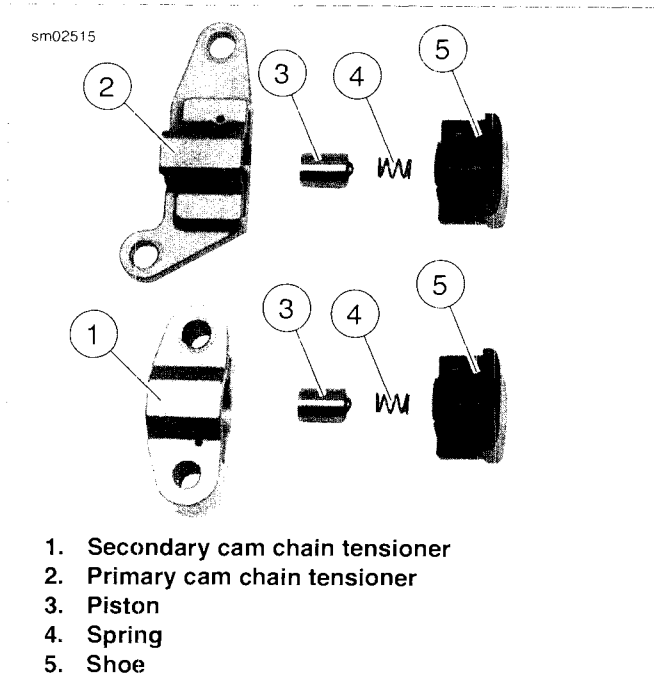

Figure 3-129. Cam Chain Tensioner Assemblies
- b. See Figure 3-129. Be sure primary and secondary cam chain tensioners are assembled as shown. If assembled incorrectly, tensioners will not function properly.